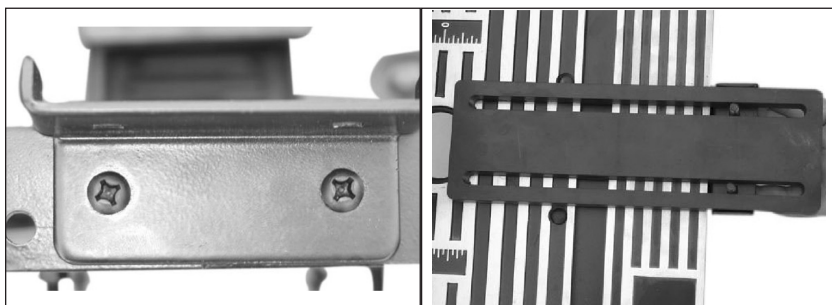

Fig.10 Fig.11
- Loosen two screws on guide for table pressure pad (8, Fig. 1 - page 4), and align two hole on guide for table pressure into the two holes on the front side wall on the table, then insert two screws into the holes, secure it in position with nut (Fig. 10).